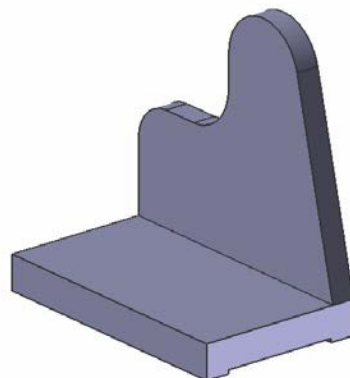

Figure 6-83 Model after creating the second feature
7. Choose the **Apply** button and then close the dialog box by choosing the **Cancel** button. The resulting model after creating the second feature is shown in Figure 6-83.